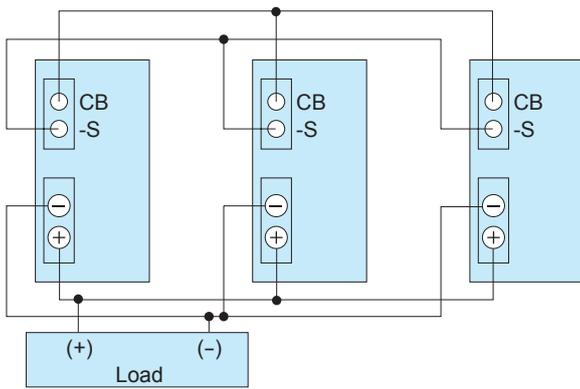

Fig.5.10 Parallel operation condition
- ① (Before wiring) set the output voltage of each unit to the desired value. The output voltage difference between the units must be less than 0.1V or 1% of the rated output voltage, whichever is smaller.
- ② Wire the power supplies as shown in Fig. 5.10. Make sure the output wires of the units connected in parallel are of the same length and the same type.
- ③ Make sure the total output current does not exceed the value determined by the following formula: